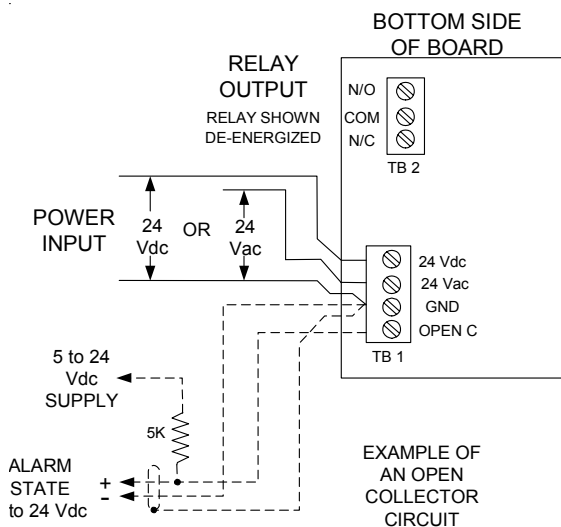

FIGURE 10 24 Vdc / Vac Input Power
4. Determine the type of power to be used (24Vac or 24Vdc) and attach the power leads to TB1 as indicated on the control circuit. See Figure 10. Make sure that an earth ground wire is attached to the earth ground terminal inside the housing.
5. Attach the relay load wires to TB2. The relay contact conditions are shown in the alarm state (de-energized). The relay's maximum rating is 6 amps 28Vdc-100/240 Vac, resistive loads. The minimum current and voltage rating 20 mA, 10 volts. If the load is less than these values use the open collector terminal on TB1 See Figure 10.